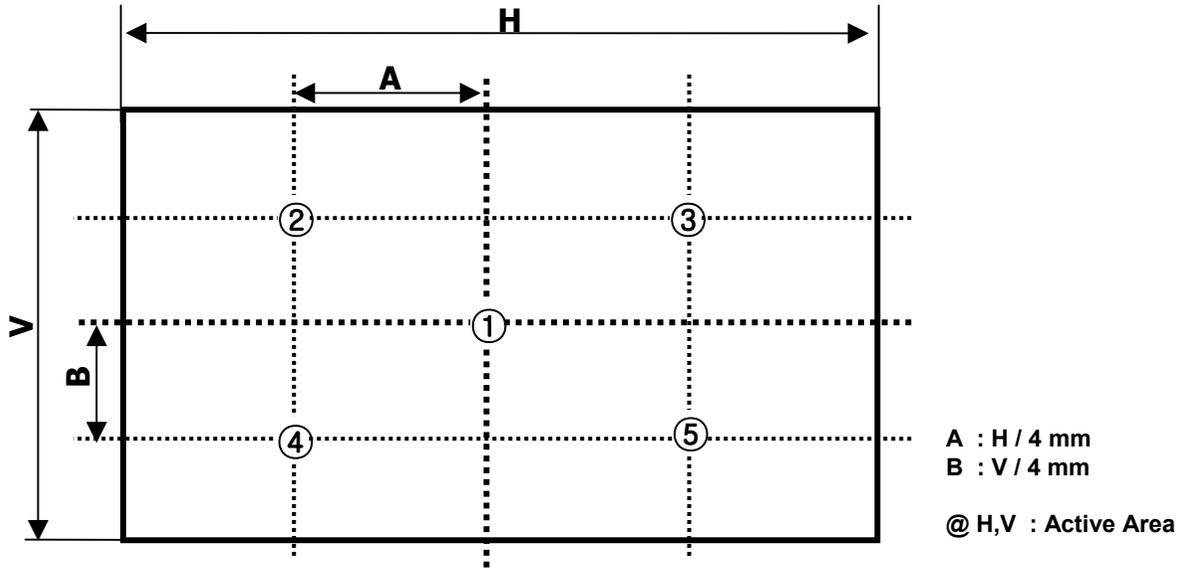

FIG. 2 Measure Point for Luminance
n = the Position number(1, 2, 3, 4, 5). For more information, see FIG 2.
2. Surface luminance are determined after the unit has been 'ON' and 30min after lighting the backlight in a dark environment at $25 \pm 2^\circ\text{C}$. Surface luminance is the luminance value at center 1-point across the LCD surface 50cm from the surface with all pixels displaying white. For more information see the FIG. 2.
Where L_{on1} to L_{on5} are the luminance with all pixels displaying white at 5 locations . For more information, see the FIG. 2.